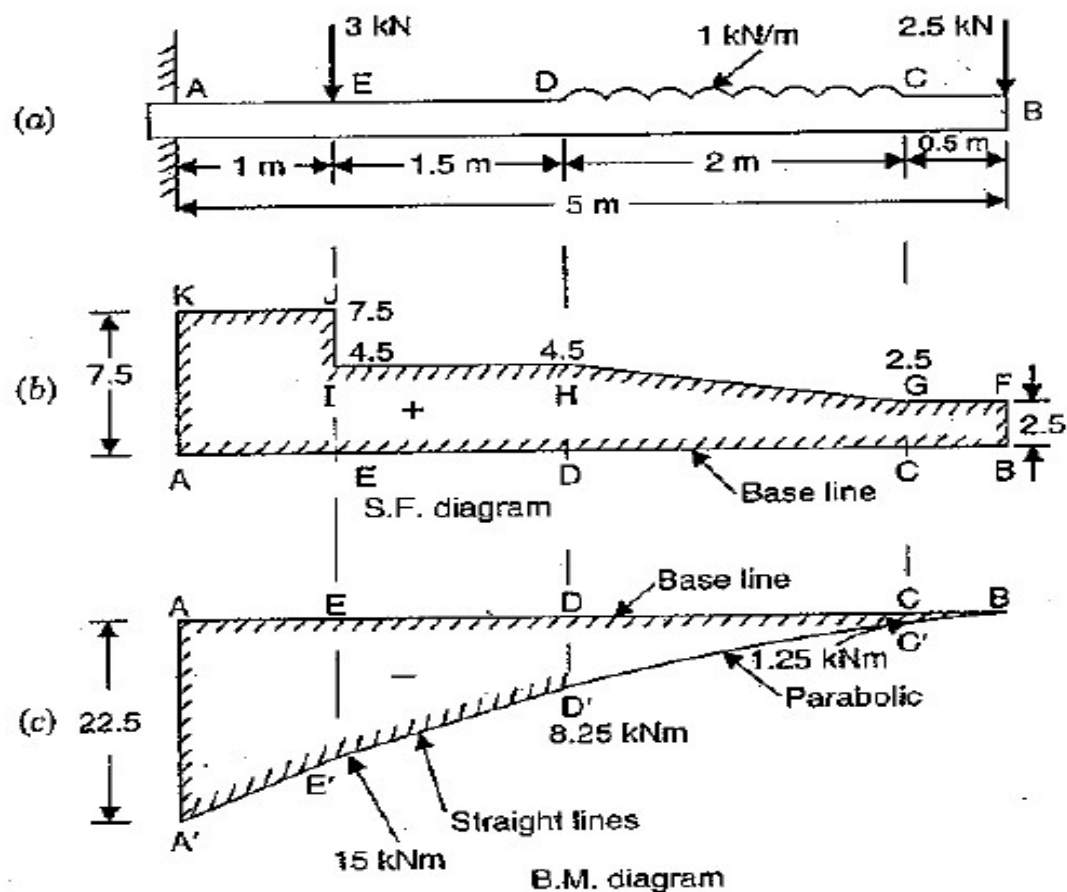

Fig. 6.21
**Problem 6.6.** A cantilever of length 5.0 m is loaded as shown in Fig. 6.21. Draw the S.F. and B.M. diagrams for the cantilever.
The shear force increases by a straight line law to  $2.5 + 2 \times 1 = 4.5$  kN at D. The shear force remains constant between D and E. At point E, the shear force suddenly increases to  $4.5 + 3 = 7.5$  kN due to point load at E. Again the shear force remains constant between A and E. Now the shear force diagram is drawn as shown in Fig. 6.21 (b).
Now the bending moment diagram is drawn as shown in Fig. 6.21 (c). In this diagram, the B.M. varies according to parabolic law between points *C* and *D* only. Between other points B.M. varies according to straight line law.